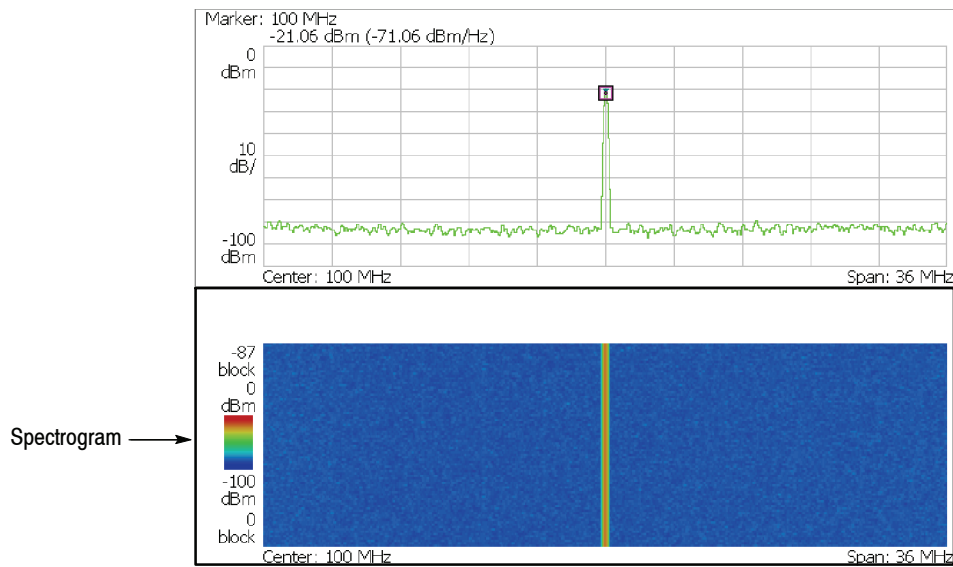

Figure 1-4: Spectrogram display
- a. Press **S/A** → **S/A with Spectrogram**. Check that the spectrogram is displayed on the lower side of the screen (see Figure 1-4).